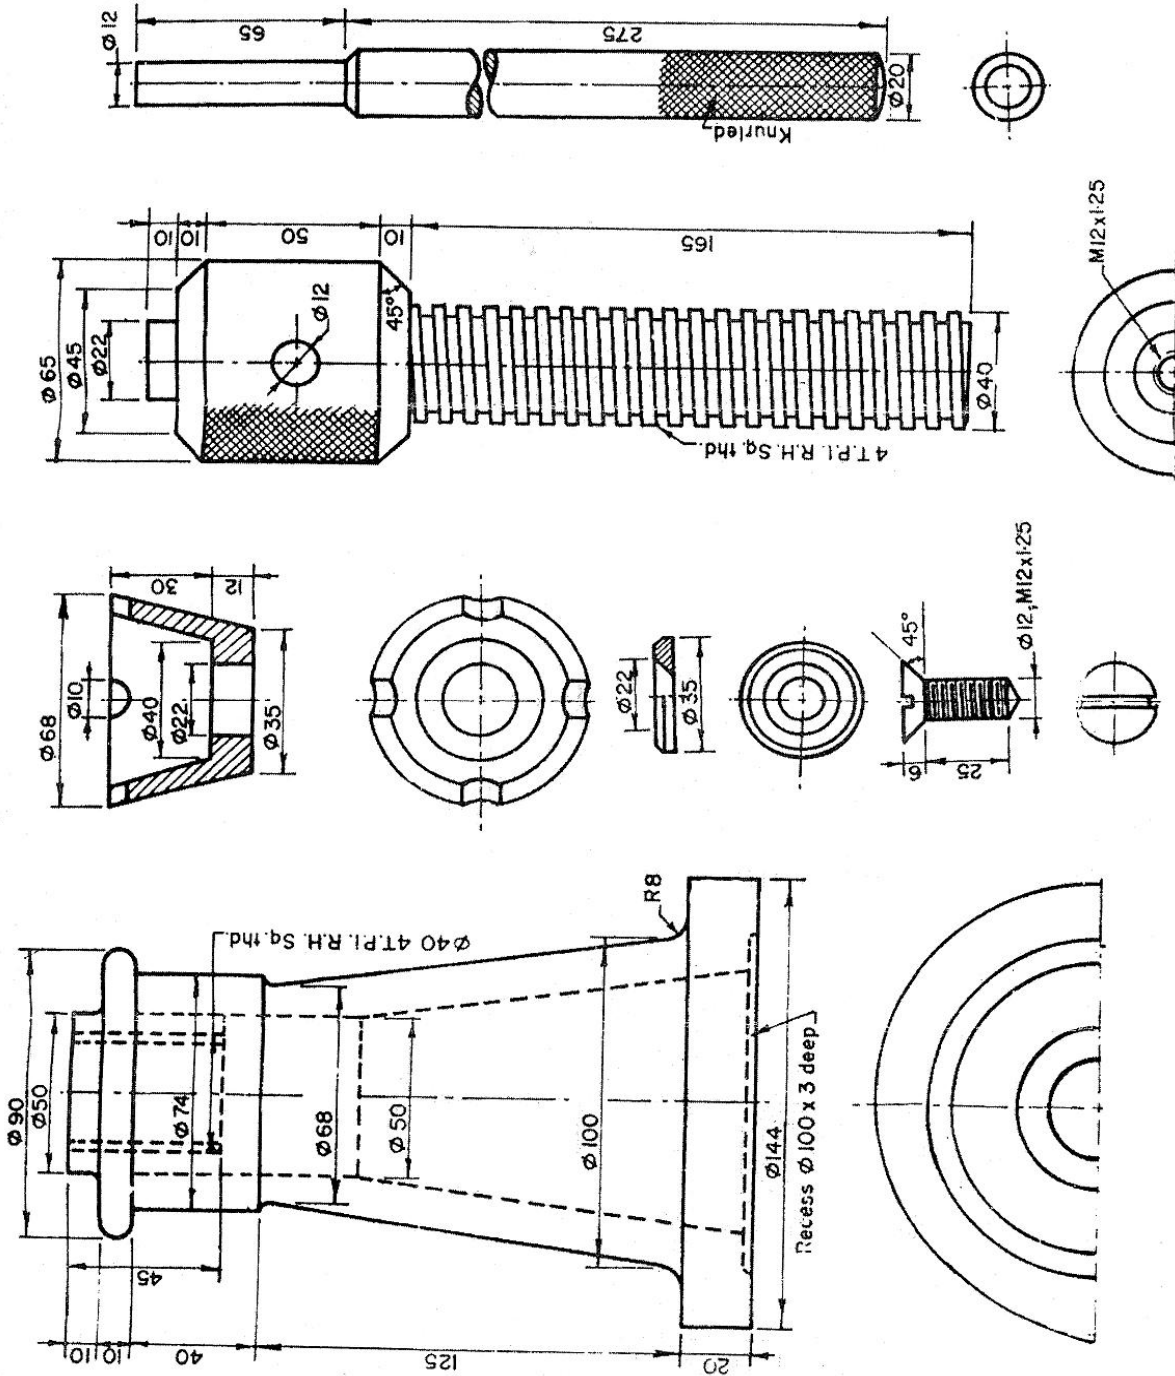

Fig. 1
7. Assemble the parts of screw jack given in Fig. 1 and draw the following views :